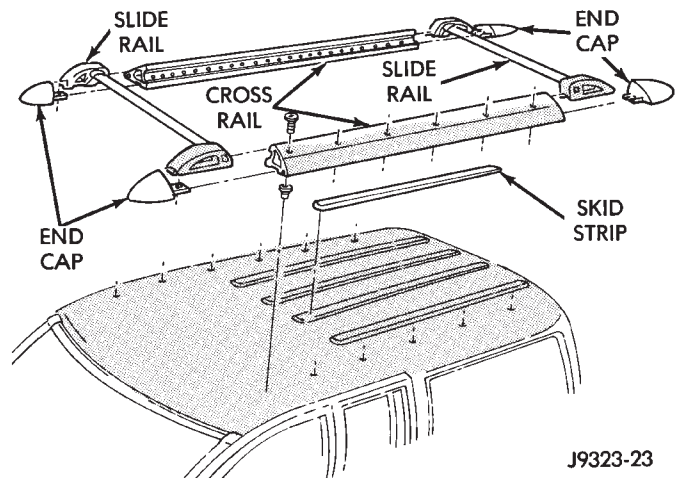

Fig. 33 Luggage Rack
- (1) Remove slide rail screws (Fig. 33).
- (3) Loosen each skid strip (Fig. 33) with a heat gun.
- (4) Lift one edge of each skid strip with a putty knife and peel it from roof panel. Apply additional heat to any location where a skid strip remains.
- (5) Remove original adhesive from roof panel with an all-purpose adhesive removal solution.
- (5) Position luggage rack on roof (Fig. 33).
- (6) Install and tighten slide rail screws to 3 N•m (28 in-lbs) torque.